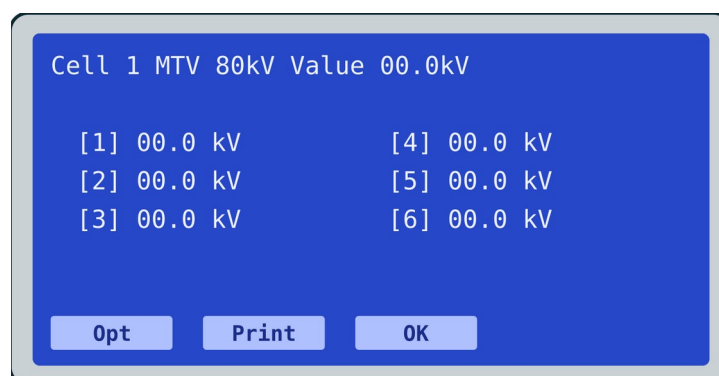

Figure 9 The result of an automatic test
5. Press Start. The instrument runs the test automatically and shows each breakdown voltage and the average (Figure 9).
At the end of an automatic test the display shows each breakdown voltage, [1] to [6], and the average as Value (Figure 9). Press Print to print the result, or OK to return to the start screen.